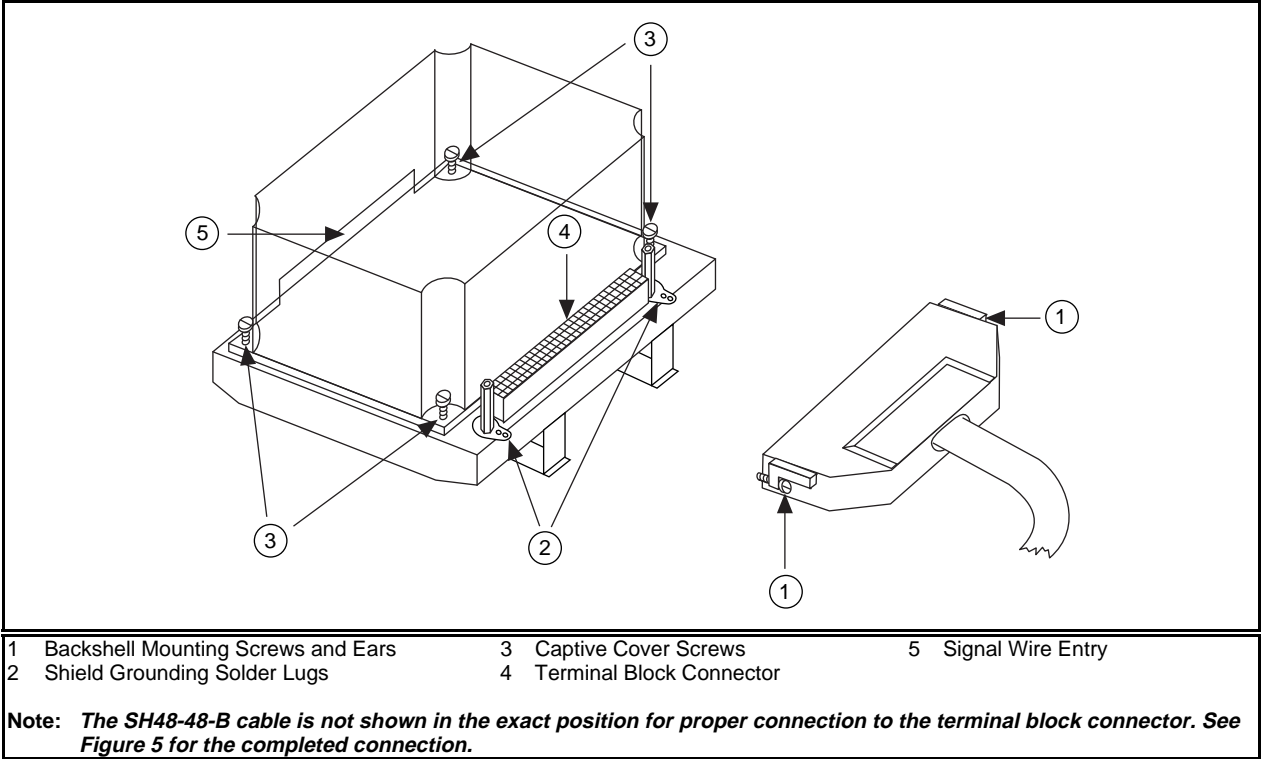

Figure 4. Connecting the SH48-48-B Cable to the TBX-1325 Terminal Block
13. Connect the other end of the cable assembly to your TBX-1326 terminal block connector and secure the SH48-48-B cable by tightening both backshell mounting screws. See Figure 4.
To connect your field signals to the TBX-1326 terminal block, refer to Figures 4 and 6 as you perform the following instructions: